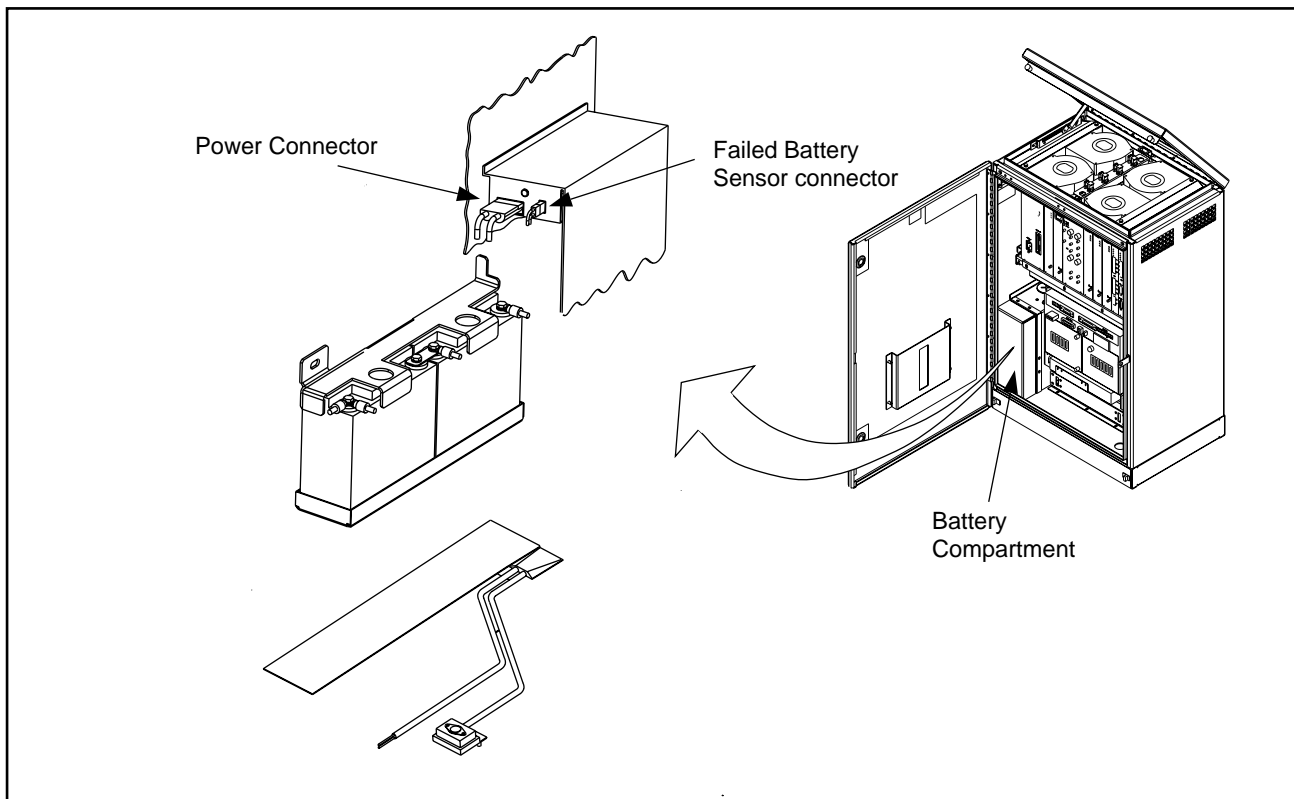

Figure 5-23. Location of Battery Compartment and Battery Heater
5. Locate the battery compartment and Battery Heater under the battery tray. See Figure 5-23 on page 5-46.